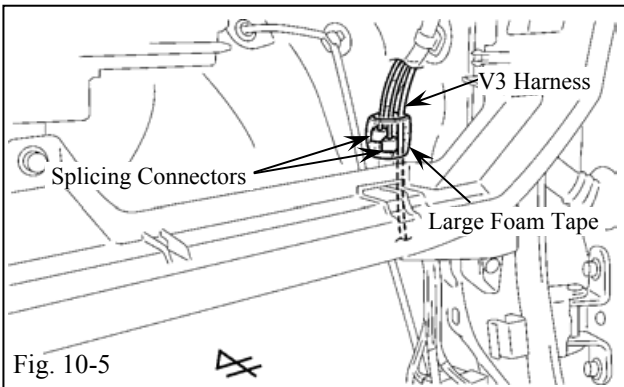

Fig. 10-5
- (f) Secure the V3 harness and splicing connectors to the vehicle harness with one large foam tape. (Fig. 10-5)